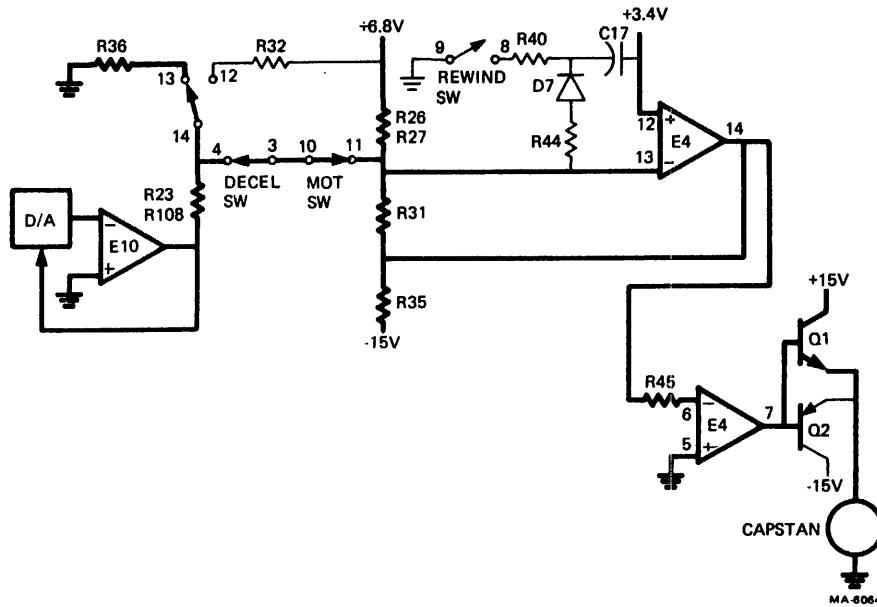

Figure 6-18 Reverse - Capstan Drive
6.5.3.3.3 Reverse (Figure 6-18) – When the capstan rotates reverse the switch operation is the same as in the forward direction except that CS3 REV CAPST DR activates the BIAS SW closing pin 13 to 14. Bias through the BIAS SW is now closer to ground, causing E4 (pin 14) to operate in the less positive portion of its range. E4 (pin 7) increases the forward bias on Q1 and decreases the forward bias on Q2, increasing reverse drive current through the capstan.
6. Refer to Figure 6-18. Although the capstan is turning in the forward direction, the drive circuits are configured for reverse, and the output from E10 (CS4 LADDER OUT) is at maximum reverse drive signal. As a result, Q1 gets maximum forward bias, Q2 gets minimum, drive current reverses, and the capstan begins to slow down.